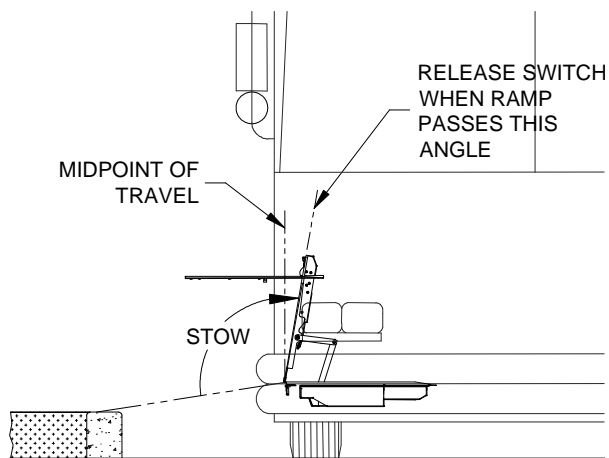

FIGURE 3-3: RAMP MIDPOINT DURING STOW
- 1) Refer to **Figure 3-3**. Move control switch to STOW position. Hold switch in STOW until ramp has passed its travel midpoint (vertical), then release switch.